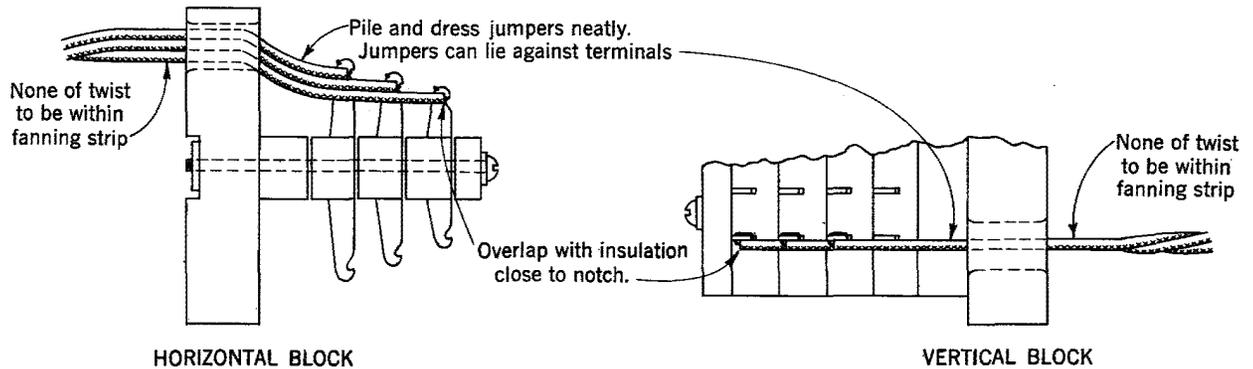

Fig. 2 - Termination of U-type Wire on Terminal Strip
5.06 The conductors of the jumper should be untwisted so that none of the twist remains within the fanning strip after the wire is terminated. However, the jumper should not be untwisted more than one regular twist back of the fanning strip. (See Fig. 2.)
8.02 When terminating the wire, hold the jumper back of the fanning strip. Adjust the wire so that the insulation comes up close to the notch of the terminal. Wrap the skinned wire around the terminal and cut or break off the excess wire. With this arrangement, the insulation overlapping the terminal will be held firmly in place. Figs. 2 through 10 show typical terminations.
8.10 When terminating jumpers on terminal strips of the type shown in Fig. 2, connect the wire on the terminal nearest the front first and work toward the rear of the block.